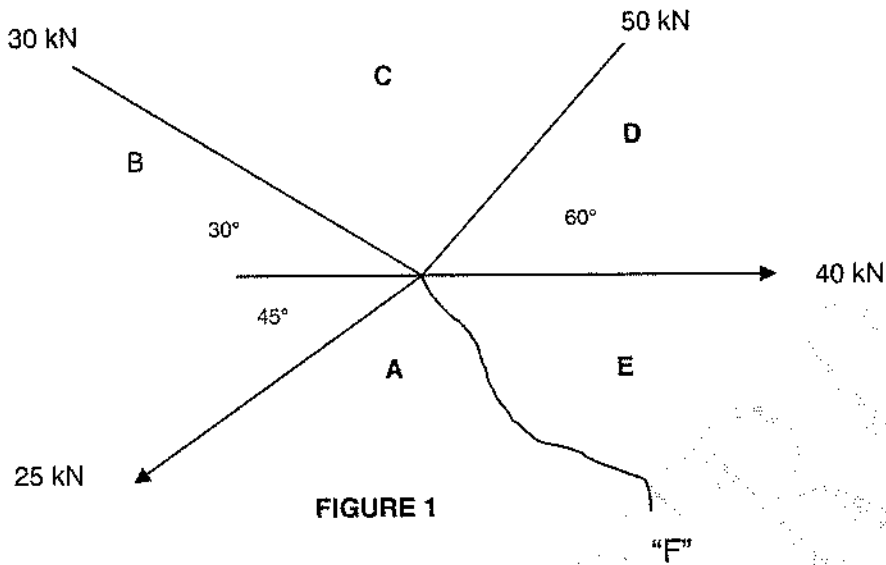

FIGURE 1
- 5.2 The system of coplanar, concurrent forces shown in FIGURE 1, on the attached DIAGRAM SHEET 1 is held in equilibrium by the force **F**.